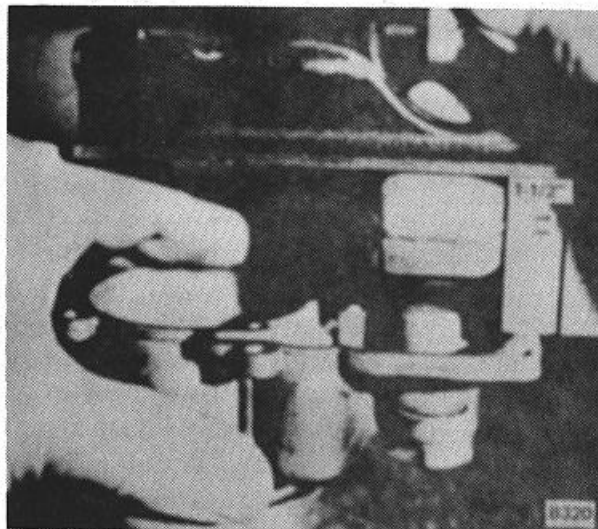

Figure 4.
7. Install fuel valve needle in seat, followed by float and float axle. Insert tapered end of float axle (27) into float bracket on side opposite slot and push through the other side. Press float axle into slotted side until the axle is centered in bracket.
8. Set float level to the standard setting using a 6" depth gauge. (Fig. 4) Do not bend, twist or apply pressure on the float body. With air intake assembly in inverted position, as viewed from the free end of float, float body should be centered at right-angle to bowl cover. The float setting is measured from the machined surface of air intake assembly to top side of float body at highest point. The standard setting for this carburetor is 1-1/2 inches. To change the distance between float and the machined surface of air intake, bend float lever close to the float body.